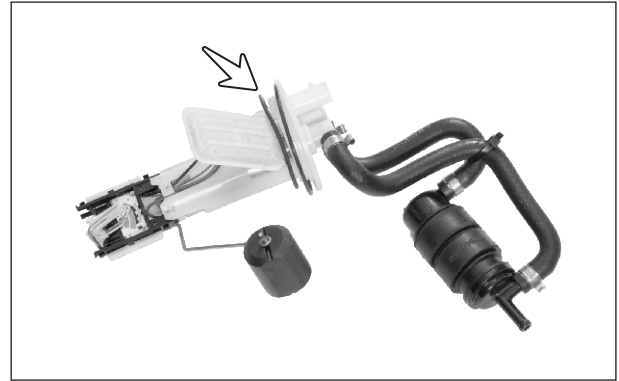

Fig. 4.5
- Take out the fuel pump module along with the two o-ring. (Fig. 4.5)